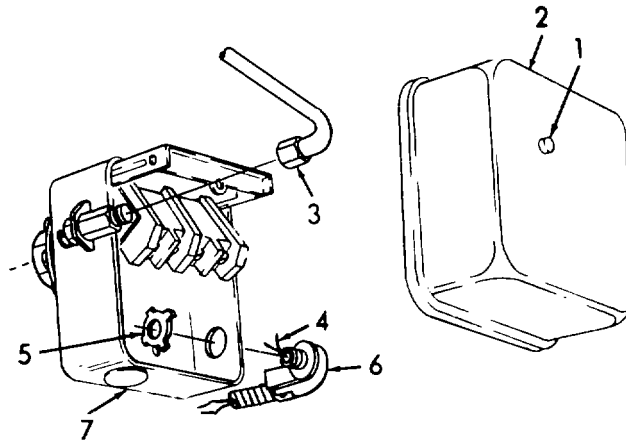

Figure 3-7. Pressure Switch, Removal.
a. *Removal.* (Refer to Figure 3-7).